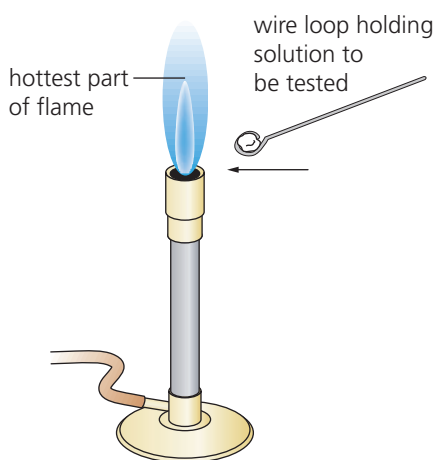

Figure 2 Step 7
7. Slowly place the loop into the hottest part of the flame (Figure 2). The tip of the inner cone is the hottest part of a flame.